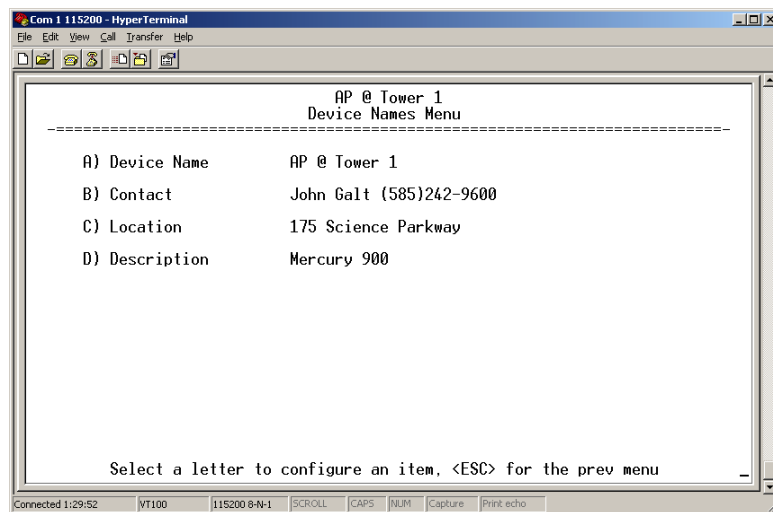

Figure 3-12. Device Names Menu
- **Device Names**—Fields used at user’s discretion for general administrative purposes. The Device Name field is shown on all menu screen headings. (See Figure 3-12 on Page 40)